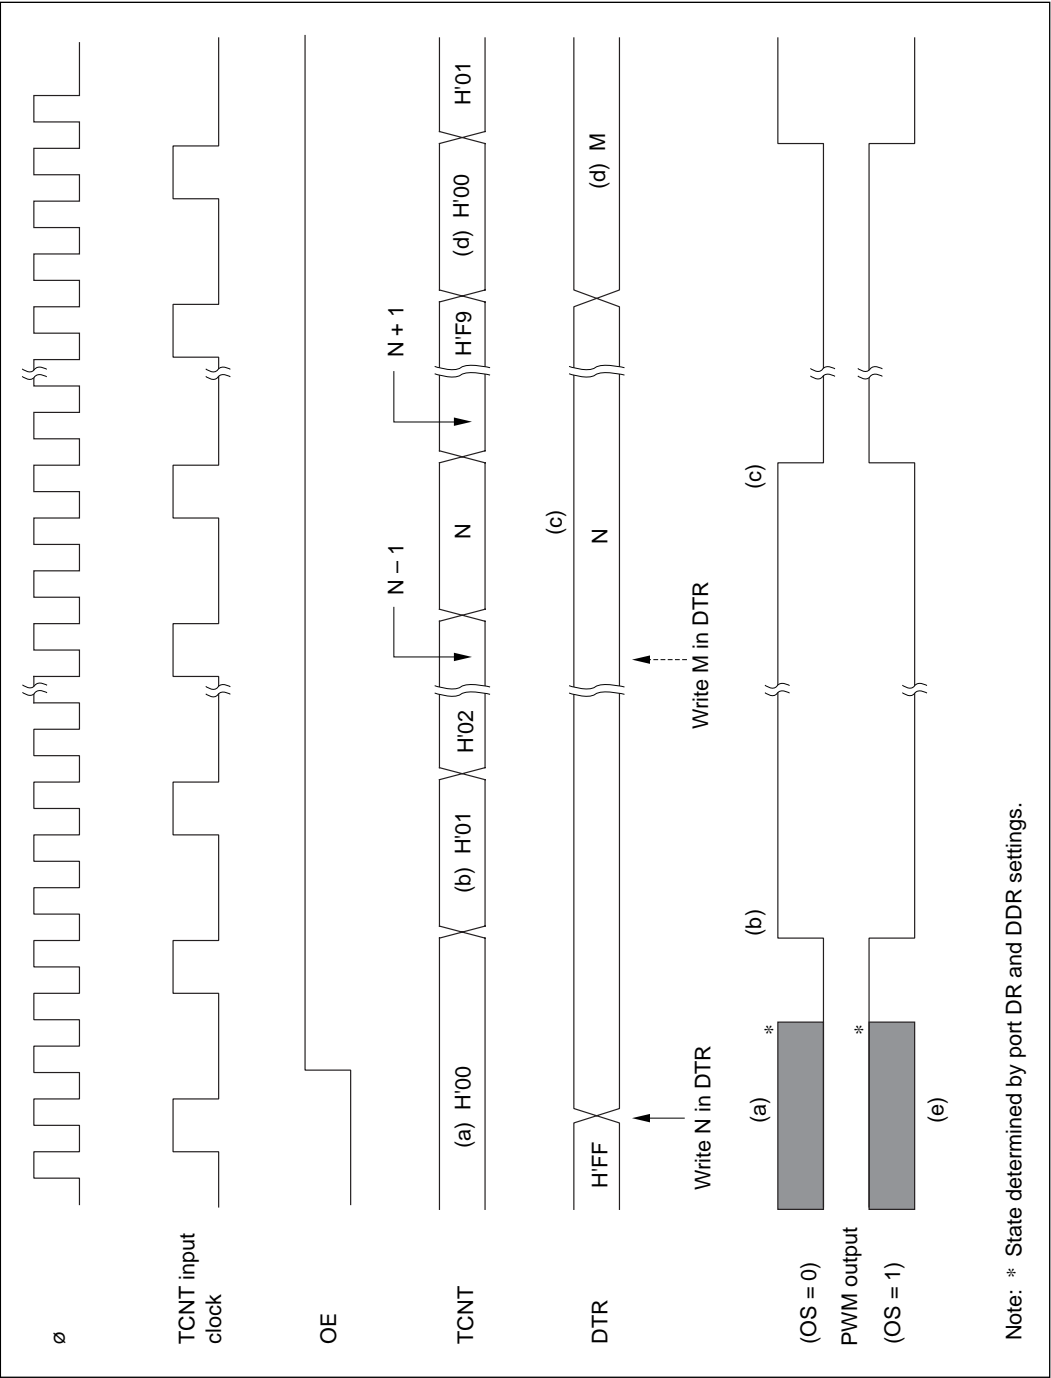

Figure 12-2 PWM Operation Timing
PWM timer operation is described below. Figure 12-2 shows a timing diagram.
(1) Direct Output (OS = 0)
- When OE = 0 [(a) in figure 12-2]
- TCNT begins counting up, and the PWM output goes to the 1 state. [(b) in figure 12-2]
- When the count reaches the DTR value, the PWM output goes to the 0 state. [(c) in figure 12-2]
- If the DTR value is changed (by writing M), the new value becomes valid after TCNT changes from H'F9 to H'00. [(d) in figure 12-2]
(2) Indirect Output (OS = 1): The PWM output is inverted. [(e) in figure 12-2]